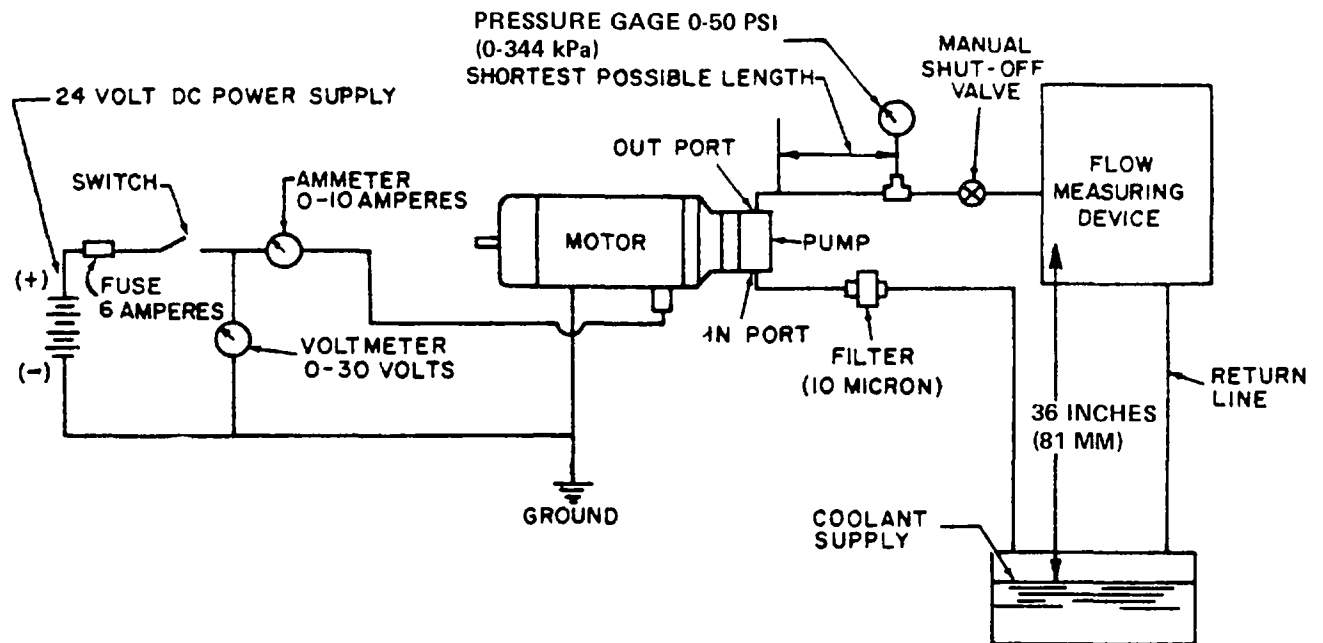

Figure 13-4. Coolant Pump, Test Setup
(1) Connect pump and motor assembly to equipment as shown in figure 13-4.
(2) Turn power switch to ON and run-in unit for approximately 15 minutes.
(3) Test relief valve by closing manual shutoff valve.